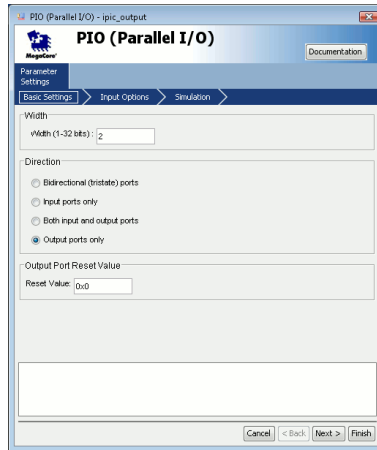

Figure 1.4: Output part of the Interprocessor Interrupt. The Figure shows the Avalon PIO output settings.
17. Add an Avalon PIO named `ipic_output`. The output PIO should have an output bit for each CPU in the system. A screenshot of the PIO dialog box can be found in Figure 1.4. This PIO will be used by the two CPUs to send interprocessor interrupts. Connect the PIO to the data master of both CPUs.